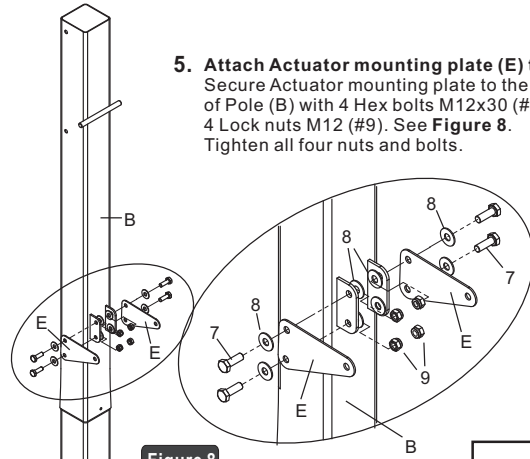

Figure 8
- 8. Attach Actuator (C) to Lower extension Arm (F).**
Slide Actuator plastic sleeve (D) over top of Actuator (C), align the hole in the Plastic sleeve with the hole in the Actuator, slide one Steel Sleeve (#5) thru both parts, see Figure 8. Hold the Actuator assembly, align Steel Sleeve with the Rear hole of Lower extension Arm (F), Attached them together with one Hex bolt M12x205 (#3), two Flat washers M12 (#8), Two Nylon washers (#1) and one Lock nut M12 (#9). Do not over tighten the bolts.
5. Attach Actuator mounting plate (E) to Top Pole (B).
Secure Actuator mounting plate to the bracket welded on backside of Pole (B) with 4 Hex bolts M12x30 (#7), 8 Flat washers M12 (#8), 4 Lock nuts M12 (#9). See **Figure 8**. Tighten all four nuts and bolts.